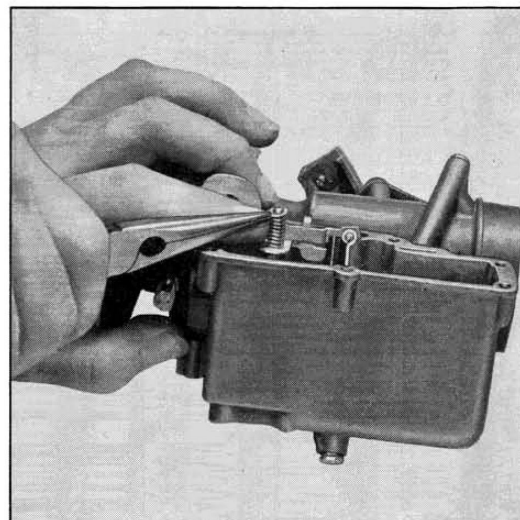

Fig. 11
9. Install dampener spring and retainer on diaphragm stem (fig. 11).